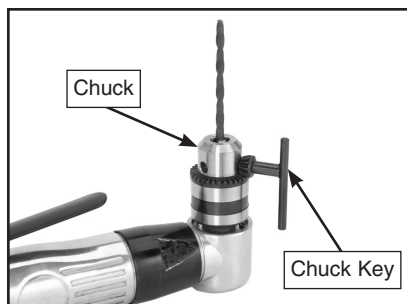

Figure 2. Installing a bit.
2. Insert the chuck key into to chuck, as shown in **Figure 2**. Turn the key to loosen the jaws enough to allow the bit shaft to fit inside the chuck.